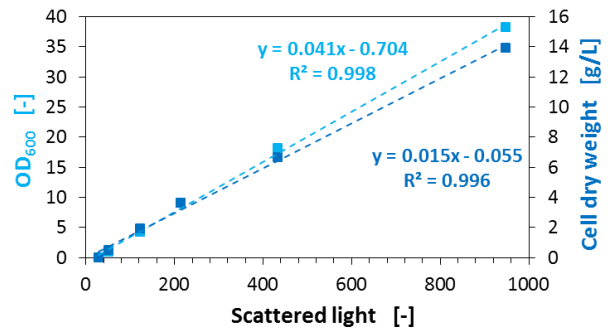

Figure 5: Biomass calibration plot.
- Use the same medium as in scattered light determination to prepare your dilution series. Otherwise the offset value of the calibration is shifted (see Figure 5).
Use a calculation program (e. g. MS Excel) to create a chart. Type the averaged scattered light values in the first column (x-axis) of a data sheet and traditional biomass units in the second or third column (y-axes). Mark the columns and insert an XY chart. Fit linear trend lines to the data sets. Their formulas and coefficients of determination ( $R^2$ ) ought to be shown in the diagram. In Figure 5 optical density and cell dry weight are plotted versus the corresponding scattered light signals. A serial dilution with six steps and a medium blank were used.
Direct proportionality of scattered light to the concentration of suspended cells defines the range of operation of the BioLector® over a wide range. For example, for *Pichia pastoris* a linear range from  $OD_{600} = 0.2$  to 350 (Gain 5) and a CDW of up to 70 g/L was proven. The following example (Figure 5) shows the calibration data of a cultivation of *E. coli* in minimal medium at gain 20.